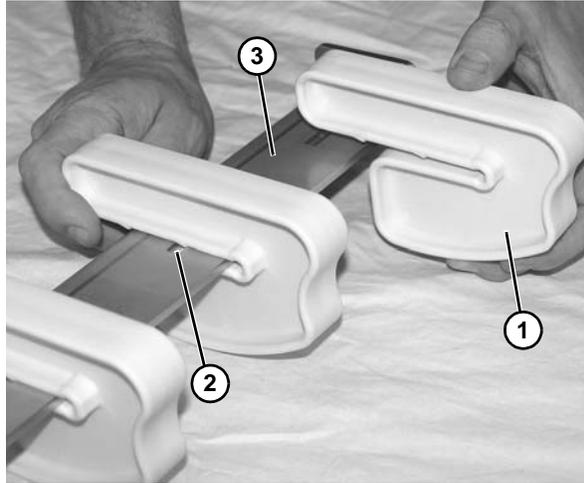

Figure 56
- Slide off wear belt shoe (**Figure 56, item 1**) and replace if worn.
Make note of the notch (**Figure 56, item 2**) where each belt shoe seats onto support bracket (**Figure 56, item 3**).